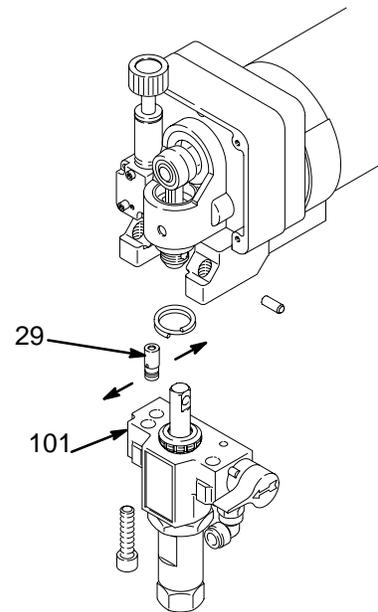

Fig. 29
2. Use a pull–twist motion to remove the transducer (29) from the pump manifold (101).
6. Align the holes in the transducer as shown by the arrows in Fig. 29.